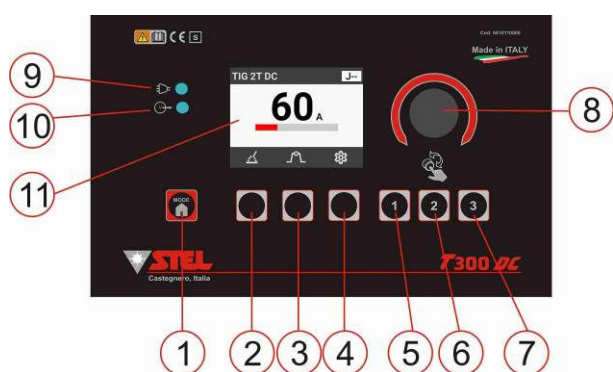

Fig. 1
- Press the button MODE/HOME (Fig.1,ref.1) to enter in the MODE SELECTION menu
- Turn the encoder (Fig.1,ref.8) and select STICK ;
- Press the encoder (Fig.1,ref.8) to confirm the choice;
1) From the main screen of the STICK mode press the button  (Fig.1, ref.2)
2) Select MANUAL turning the encoder (Fig.1,ref.8);
3) To confirm the choice press the encoder (Fig.1,ref.8);
1) Press the button  (Fig.1, ref.2)
2) Select EASY SET function turning the encoder (Fig.1,ref.8);
5) To confirm the choice press the encoder (Fig.1,ref.8);
6) Select the type of electrode turning the encoder (Fig.1,ref.8);
7) To confirm the choice press the encoder (Fig.1,ref.8);
8) Select the size of the electrode turning the encoder (Fig.1,ref.8);
9) To confirm the choice press the encoder (Fig.1,ref.8);
1) To enter the settings menu, press the button  (Fig.1,ref.3);
2) Select the function to modify turning the encoder (Fig.1,ref.8)
3) To change the value of the chosen function, press the encoder (Fig.1,ref.8) and turn it;
1) Press the button  (Fig.1,ref.3) to enter in the STICK SETTINGS menu ;
2) Select the function VRD 18V turning the encoder (Fig.1,ref.8) .
3) Press the encoder (Fig.1,ref.8) and then turn it to activate the VRD (ON).
4) Press the button MODE/HOME (Fig.1,ref.1) to come back to the main screen;
- 1) Press the button  (Fig.1,ref.3) to enter in the menu ;
- 2) Here, turning the encoder (Fig.1,ref.8), it is possible to regulate the pulse frequency ;
- 3) Press the encoder (Fig.1,ref.8) to jump to the next function : Duty Cycle ;
- 4) Turn the encoder (Fig.1,ref.8) to modify the Duty Cycle value;
- 5) Press the encoder (Fig.1,ref.8) to jump to the next function BASE CURRENT ;
- 6) Turn the encoder (Fig.1,ref.8) to modify the base current value;
- 7) Press the button MODE/HOME (Fig.1,ref.1) to come back to the main screen;
- 1) Press the button MODE/MODE (Fig.1, ref.1) to enter in the menu.
- 2) Use the encoder (Fig.1, ref 8) to select the Welding Mode and press it to confirm the choice.
- 1) Press the  button (Fig.1,ref.2).